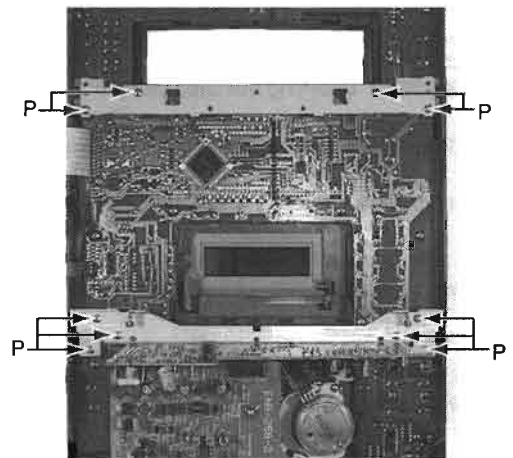

Fig 13
- 3.Remove ten screws P on the front bracket. (See Fig.13)